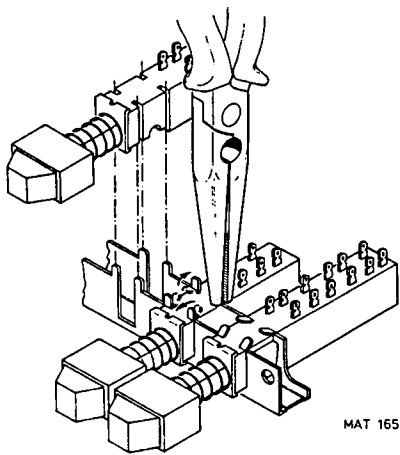

Fig. 16. Replacing a switch-segment of a push-button set
To remove a push-button switch, the Hexagon screws that secure it to the front panel must be removed. To replace one switch-section of a push-button set, refer to fig. 16, and proceed as follows:
- Straighten the 4 retaining lugs of the relevant switch as shown in fig. 16.